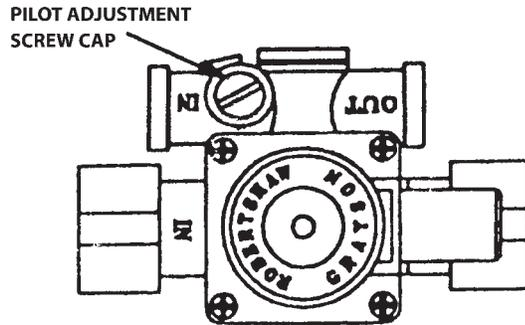

Figure 3
TO TURN OFF THE OVEN PILOT: (See Fig. 3)
3. Turn the slotted pilot key to provide the proper size pilot. (See Fig. 3, TS11J Safety Valve or BASO H43A).